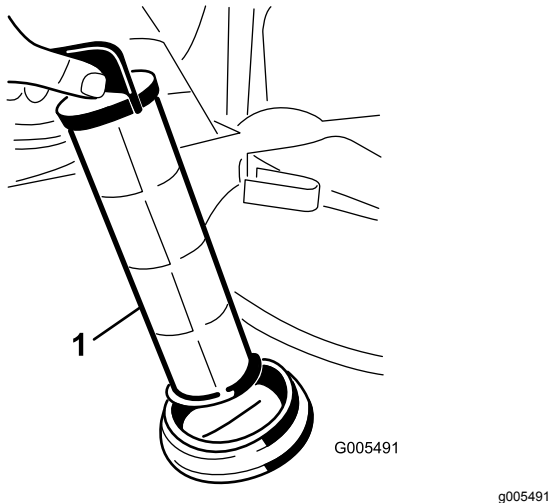

Figure 67
4. Pull the suction strainer out of the hole (Figure 67).